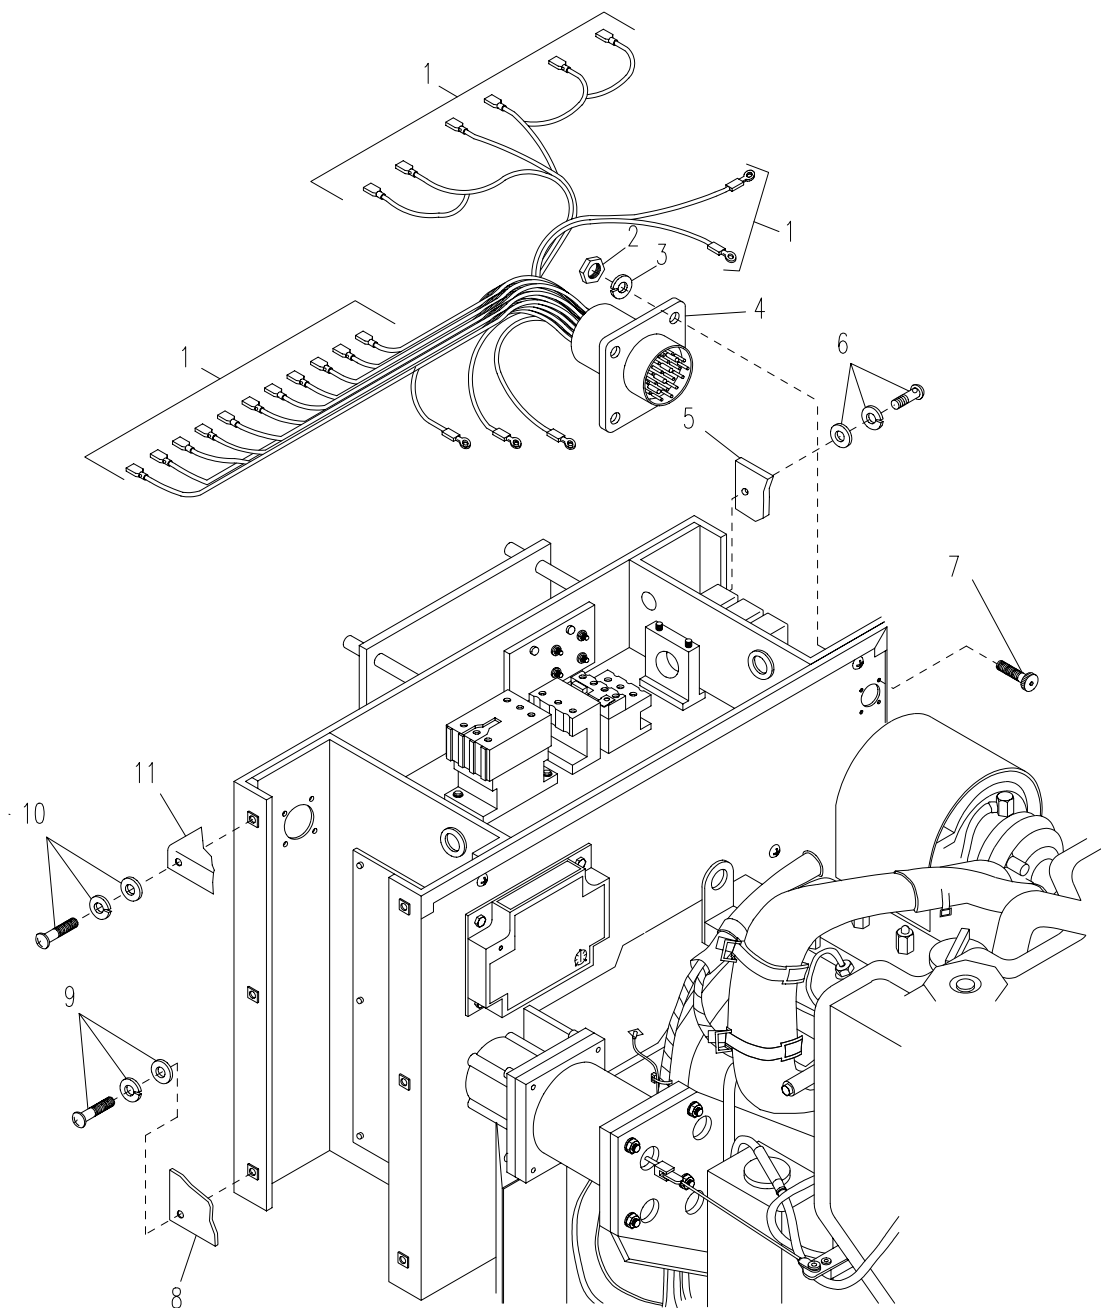

Figure 5-21. Wiring Harness J1
- a. Remove four screws (JTACS), or slotted hex-head bolts (SICPS and WIN-T), flat and lock washers (10, Figure 5-21), and remove the generator housing top cover (11).
- b. Remove four screws (JTACS), or slotted hex-head bolts (SICPS and WIN-T), flat and lock washers (9), and remove generator housing side cover (8) (fuel transfer pump side).
- c. Remove two screws, wing nuts and lock washers (JTACS), or four slotted hex-head bolts (SICPS and WIN-T), flat and lock washers (6), and remove generator housing side cover (5) (muffler side).
- d. Refer to Table 5-3 and use a Multi-meter to test for continuity between pins at connector J1 (4, Figure 5-21) and corresponding leads (1).
- f. Using a Multi-meter, test for continuity between each pin position and connector shell of J1 (4).
- a. Tag and disconnect wiring harness electrical leads (1, Figure 5-21) and hex head socket captive screws (JTACS and WIN-T).
- b. Remove connector J1 (4) from housing by removing four pan head screws (caged nuts (SICPS), machine screws (JTACS and WIN-T)) (7), assembled nuts (2), and lock washers (3).